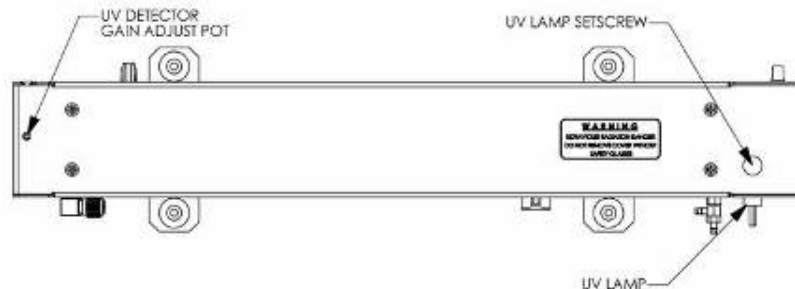

Figure 6-8. Photometer Assembly – Lamp Adjustment / Installation
4. Locate the UV detector gain adjust pot on the photometer assembly (see Figure 6-8).
4. Locate the UV lamp at the front of the optical bench assembly (see Figure 6-8).
9. Turn the UV detector gain adjustment pot (See Figure 6-8) clockwise to its minimum value. The pot may click softly when the limit is reached.